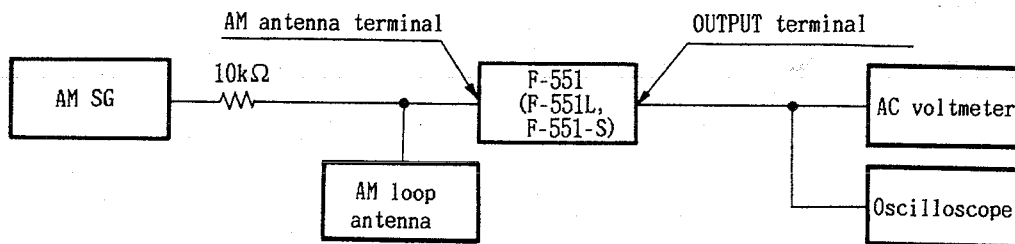

Fig.2-2. AM adjustments connection diagram
- Connect up as indicated in Fig.2-2.
- Press the AM (MW) key to set AM (MW) mode.
- Press the AM (LW) key to set AM (LW) mode.